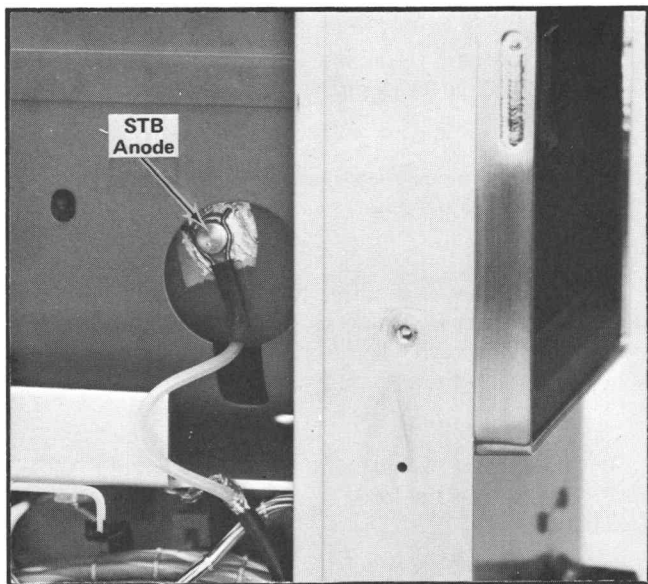

Fig. 4-2. Location of CRT target electrode.
2. Disconnect the lead to the CRT target (Fig. 4-2).